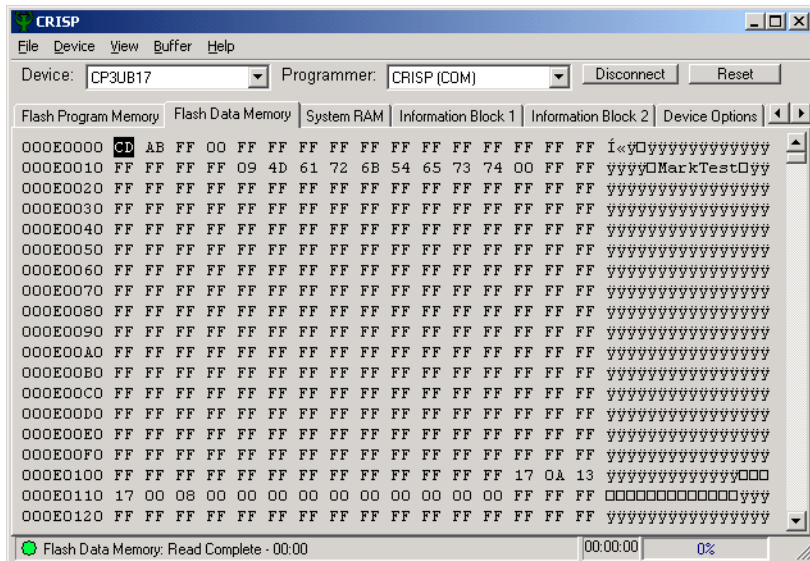

Figure 6-15. CRISP Window Displaying Uploaded Data
3. **Examine CRISP Buffer.** After the memory has been read and uploaded into the CRISP buffer, the contents of the upload are displayed in the main CRISP window. Scroll the window to examine the higher memory locations. The uploaded data is shown in Figure 6-15.